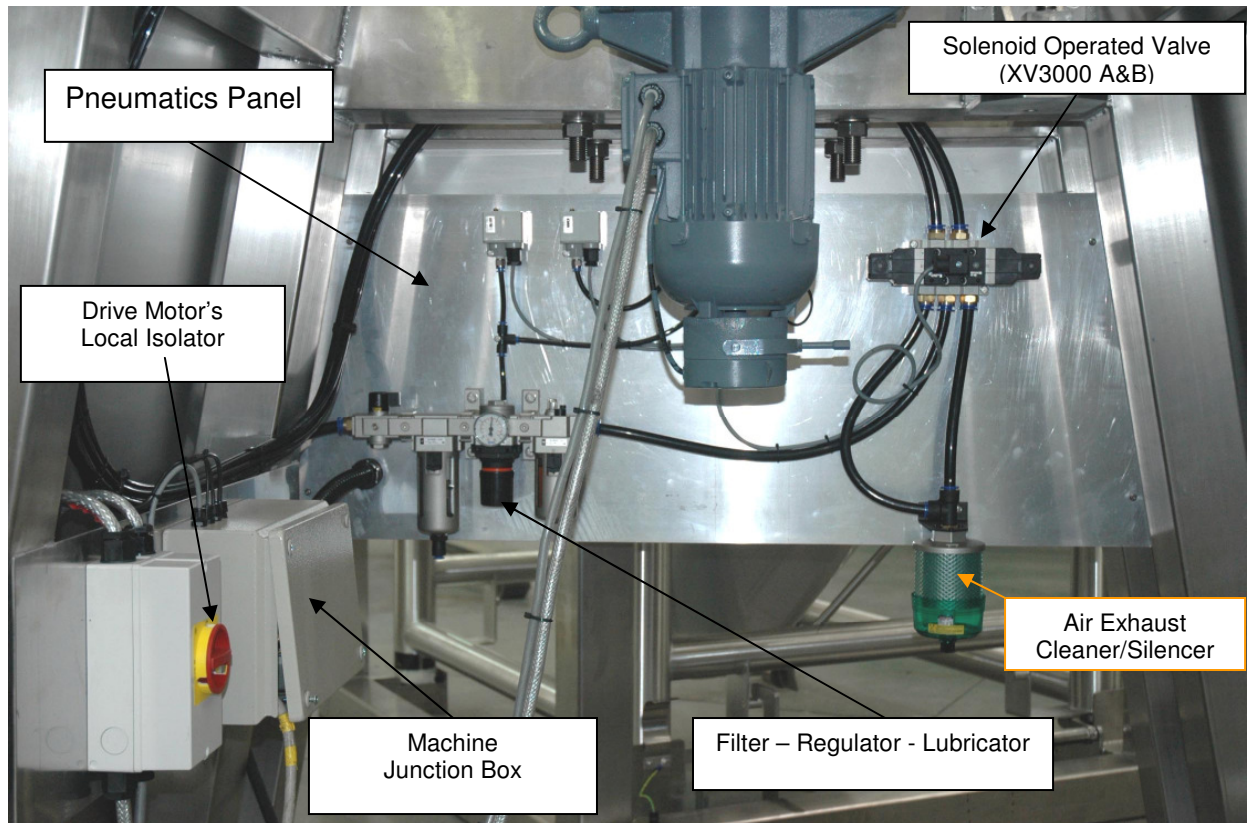

Fig 11 - Blender – Drive Motor, Pneumatics' Base Plate Assembly, Machine Junction Box
- Pneumatic control system (Fig 11).
- Electrical junction box (Fig 11).
Pneumatic Control System (Fig 11)
Plastic pipework and rotating unions are used to connect the pneumatic system through the support frame. The air supply is connected to machine via the filter/regulator assembly mounted on the base panel behind the motor. See Fig 11.
1.4 Control (Figs 11, 17 & 18)